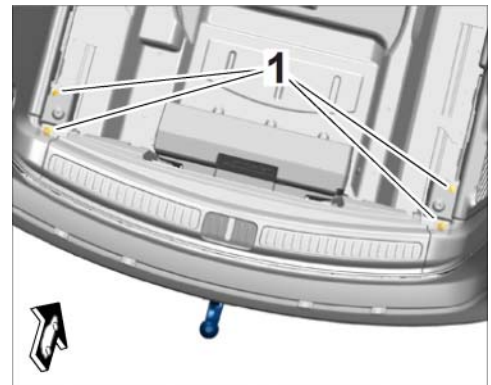

Figure 18
3.4.1 Insert towbar system guide profile into the longitudinal member on the vehicle, position it and secure it with four new screws, M10 x 105 x 45 (⇒ *Figure 18*)